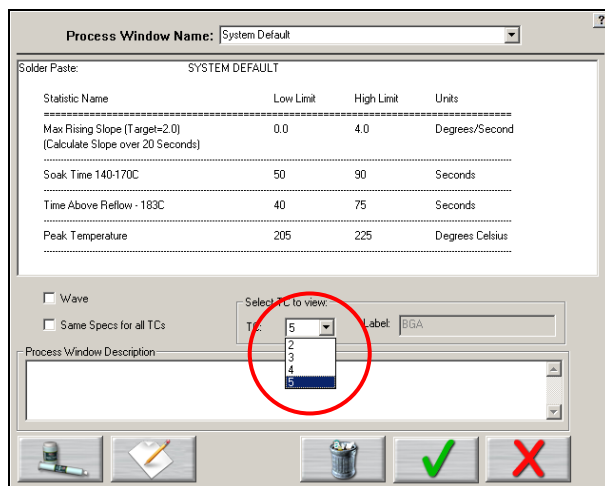

Figure 28: Process Window – Separate Specs – Select TC's
**Select TC to View** – Drop-down menu containing the TC's that have already been defined. (Previous step) See Figure 28.